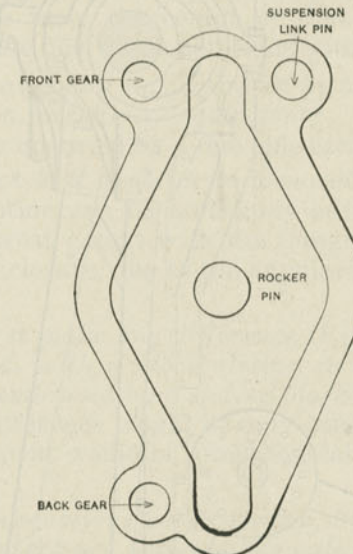

Fig. 275. Hook Valve Motion.
A. The combined hook, Fig. 275, being two V hooks joined at the points.